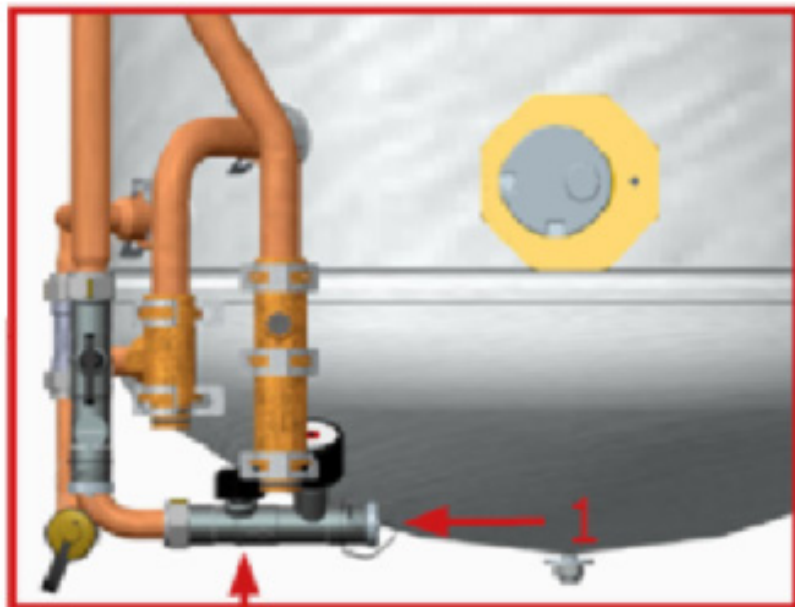

Fig. 30 : Isolation Valve Assembly
4. Connect a hose from a suitable drainage point to the isolation valve shown in Fig. 33. Open black isolation valve assembly shown in Fig. 30 to allow flow of water from the coil.